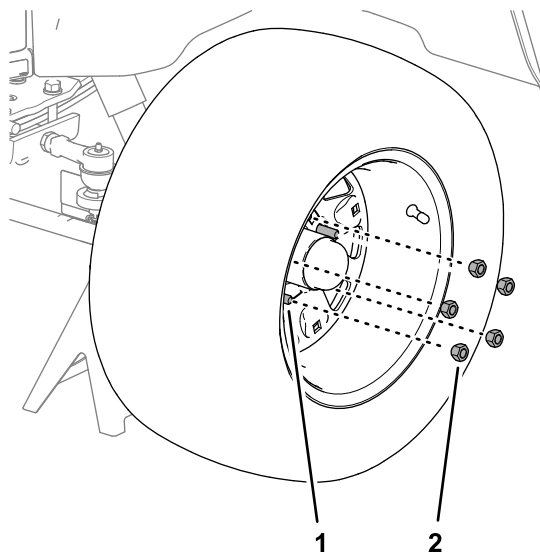

Figure 12
1. Align the holes of the wheel onto the studs of the wheel hub (Figure 12).
2. Assemble the wheel to the studs with the 5 wheel nuts, and tighten them by hand (Figure 12).